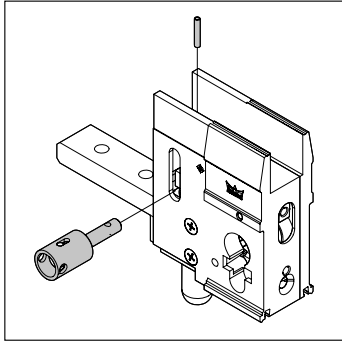

Abb. 16 Right lock variant
1. To assemble a front locking device that is installed to the right on the door, turn the lock by 180° (Abb. 16).